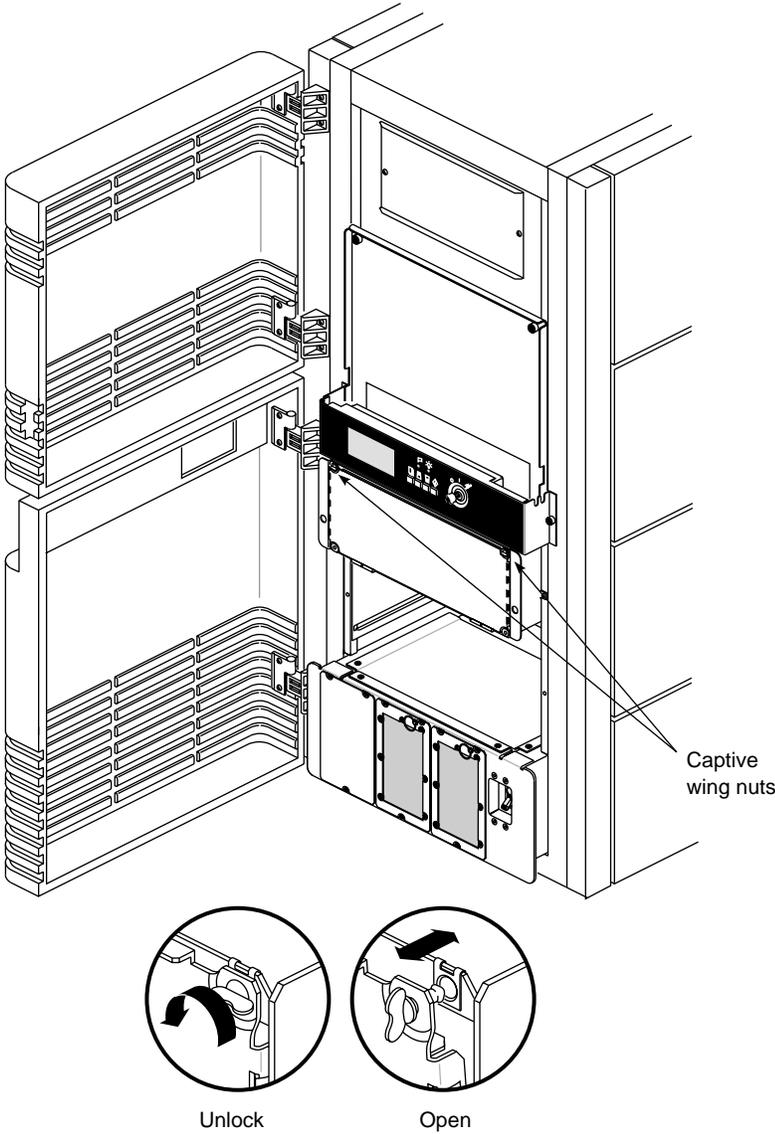

Figure 3-6 Opening the SCSIBox
3. Release the two captive wing nuts securing the SCSIBox door and allow the door to swing down (see Figure 3-6).